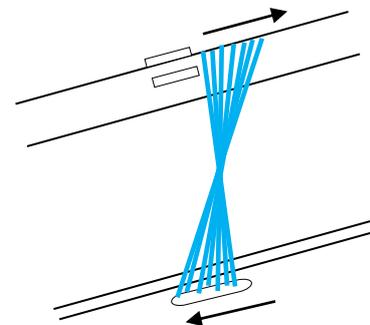

Figure 36: Successive Turns in Gammoning
**Step 1:** Construction of HORSE JIG (Fig. 36)